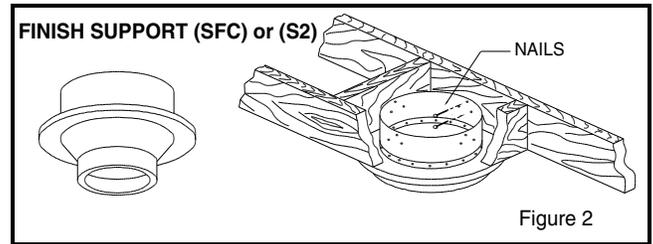

Figure 2
- 3 From below push the finish support into the framed hole. Nail the support to the framed box using (12) - 3" spiral nails (see Fig. 2)